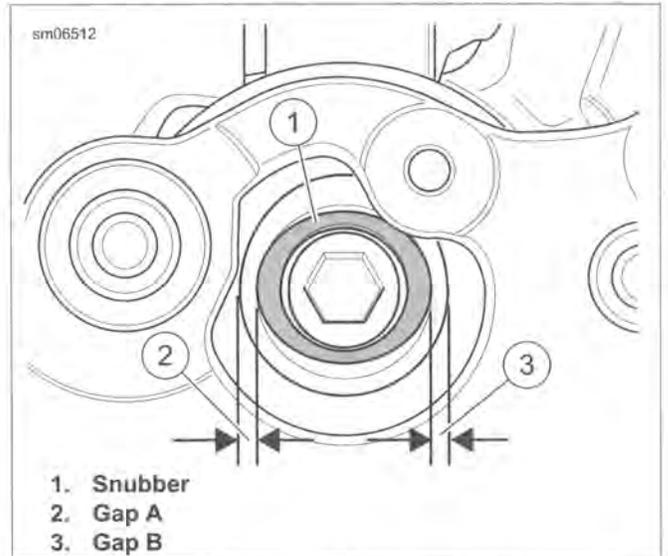

Figure 2-177. Front Mount Centering
See Figure 2-177. Verify that the snubber (1) on each mount is centered fore and aft with gap A (2) and gap B (3) approximately equal. Vertical centering cannot be adjusted.